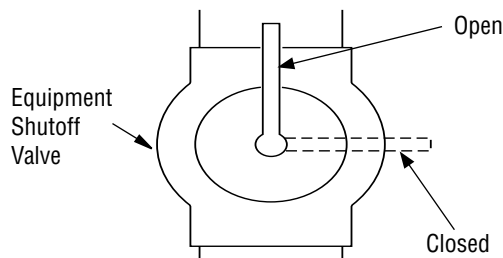

Figure 13 - Equipment Shutoff Valve
1. Close equipment shutoff valve (see **Figure 13**).
1. Open equipment shutoff valve (see **Figure 13**).